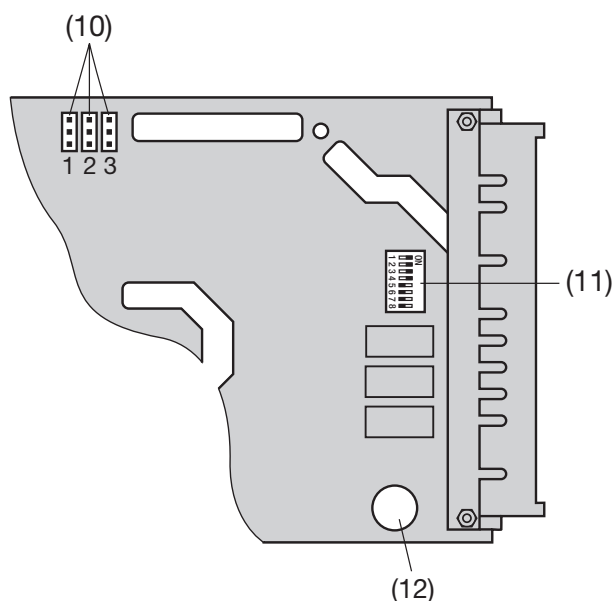

Fig. 5. Rear part of EURAX VC 603 showing the jumper pins (10), the eight-way DIP switch (11) and the supply fuse (12).
Connect the measuring input leads to suit the **type of measurement or application** (see Table 6) and fit jumper plugs **A** and **B** on the jumper pins accordingly. The location of the jumper pins (10) on the plug-in unit can be seen from Fig. 5.
Select the type of output signal by setting the DIP switches (11) as given in Table 8 (see Fig. 5).